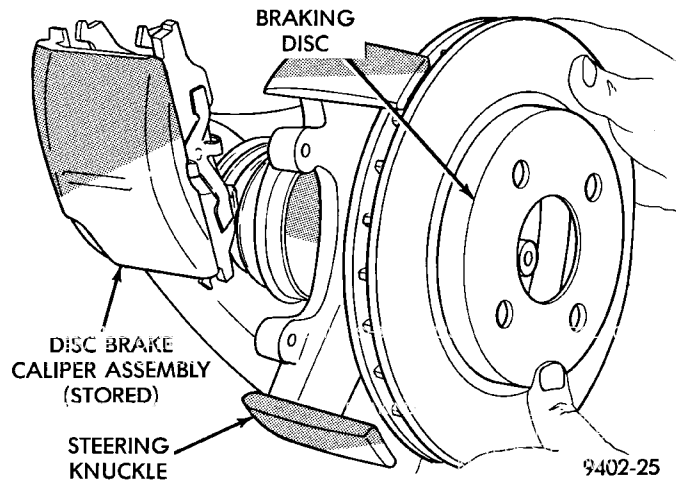

Fig. 20 Installing Braking Disc
(9) Install braking disc back on hub and bearing assembly (Fig. 20).